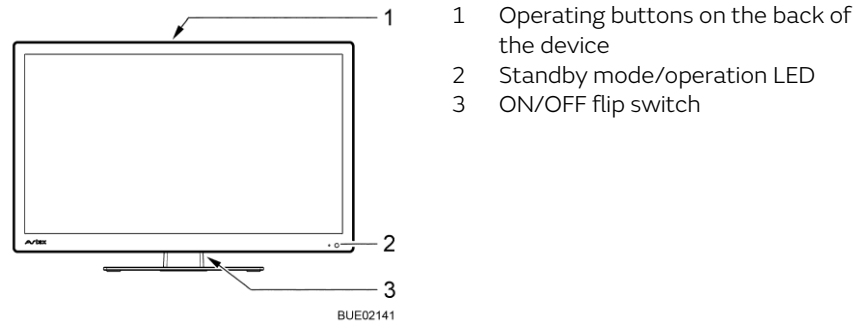
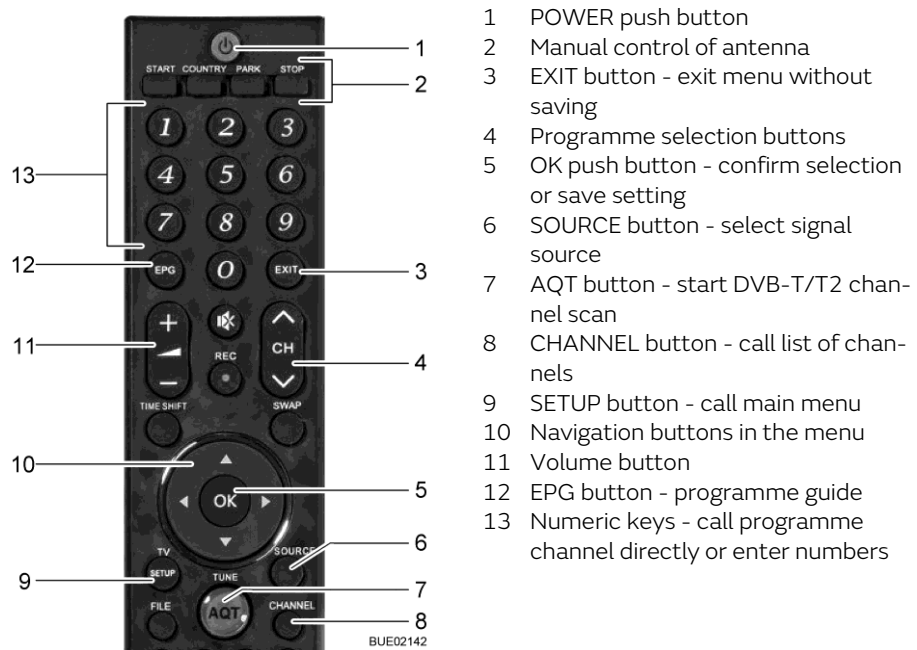

Fig. 49 Operation on the flat screen
Fig. 50 Remote control
- Set flip switch (Fig. 49,3) on the flat screen's back to ON. The system changes to standby mode. The LED (Fig. 49,2) is lit red.
- Press the POWER button (Fig. 50,1) on the remote control. The LED (Fig. 49,2) is lit blue.
- Press the programme selection buttons (Fig. 50,4 or Fig. 50,13) until the desired TV programme has been selected.
- Press the SOURCE button (Fig. 50,6) repeatedly until the desired signal source has been selected.
- Press the PARK button (Fig. 50,2). The antenna moves into parking position.
- Press the SOURCE button (Fig. 50,6) repeatedly until the desired signal source (e.g. DVD) has been selected.
- Press the POWER button (Fig. 50,1) on the remote control. The system changes to standby mode. The LED (Fig. 49,2) is lit red.
- Set flip switch (Fig. 49,3) on the flat screen's back to OFF.